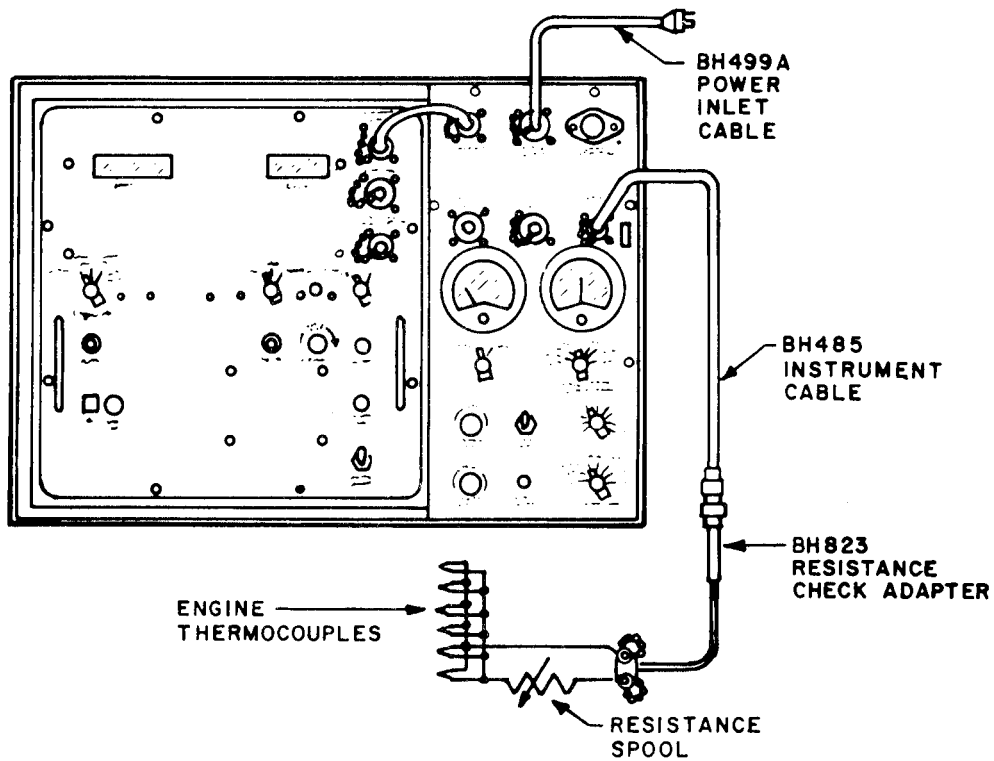

Figure 2-6. Temperature Circuit Resistance Check Setup.
(2) observe reading on tester TEMP indicator and adjust A/C IND ADJ control to test temperature (usually 600 °C).
(3) The difference in the indication of the tester TEMP indicator and the aircraft indicator is the error of the aircraft indicator and should not exceed allowable technical manual tolerance.
(4) If aircraft indicator exceeds technical manual tolerance, repair or replace indicator.
(5) Turn FUNCTION SELECT and MASTER POWER switches to OFF position before removing cables from tester and aircraft.
d. Temperature Circuit Resistance Check (D'Arsonval Indicator(s)). In the resistance check, the resistance of the aircraft thermocouple wire, thermocouples, and resistance spool is measured on the tester RESISTANCE CHECK meter. Refer to figure 2-6 and proceed as follows: